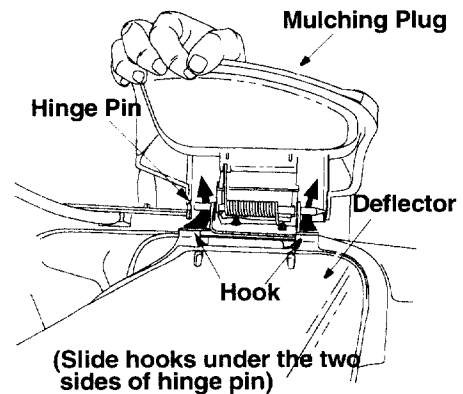

Figure 8
- On the side of the mower, lift the mulching plug. See Figure 8.
- Slide the two hooks of the side discharge chute under the hinge pin on the mulching plug assembly as shown in Figure 8. Lower the side mulching plug.